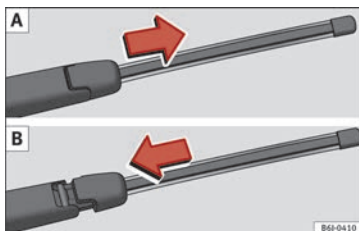

Fig. 91 Removing and fitting the rear window wiper blade.
- Slide the blade adapter in the direction of the arrow and remove the blade » **Fig. 91 A.**
- Place the blade as shown in » **Fig. 91 B** and slide the adapter along until it engages.